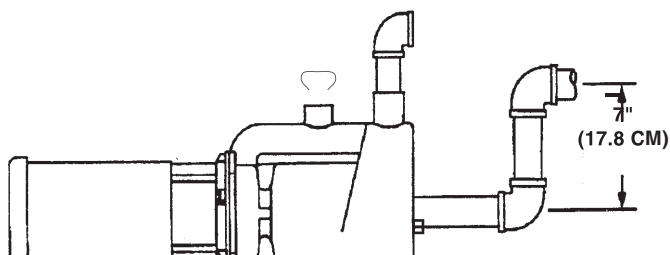

FIGURE 2
9. Install the five ¼"-20 x 1¾" hex bolts, washers and nuts (Items 2, 6, 10 supplied with chamber). The nuts will insert into the back tabs on the motor adapter (Item 9). Tighten each bolt to between 30 and 35 in/lb (3.4 and 4.0 Nm) using star pattern sequence (shown in Figure 2 Page 1 of Installation and Maintenance Instructions). Do not over-tighten.